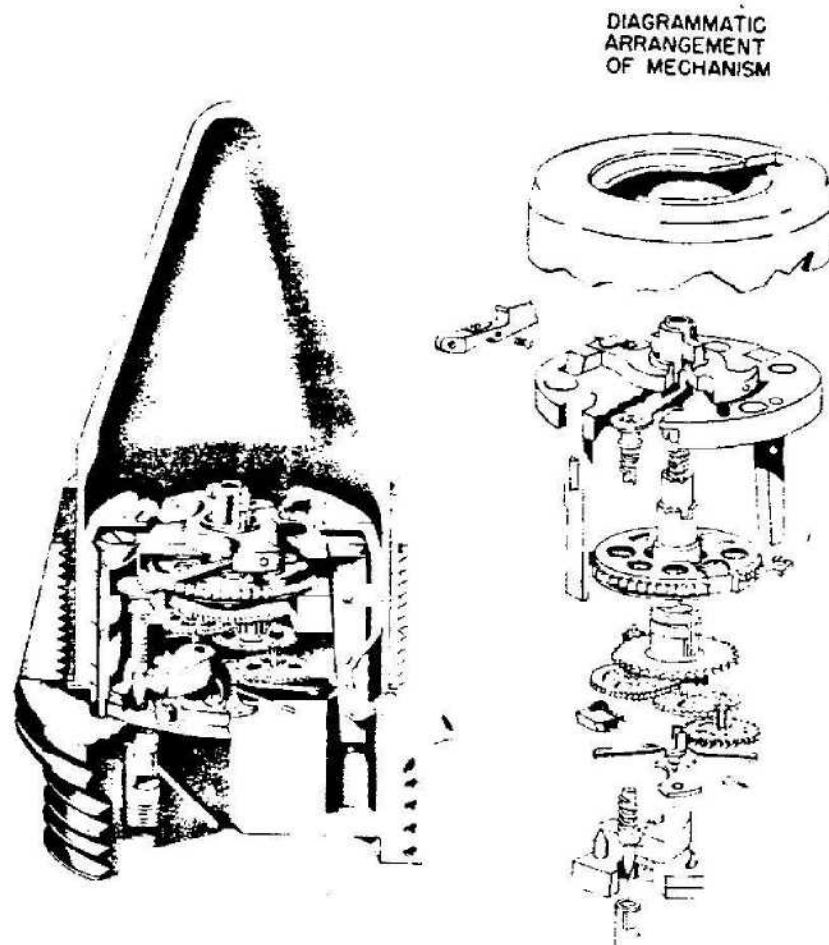

Figure 593A—Zt. Z. S/30
**EMPLOYMENT:** Mechanical Time Fuze used in 8.8-cm and 105-cm H. E. antiaircraft shells. (See fig. 593A.)